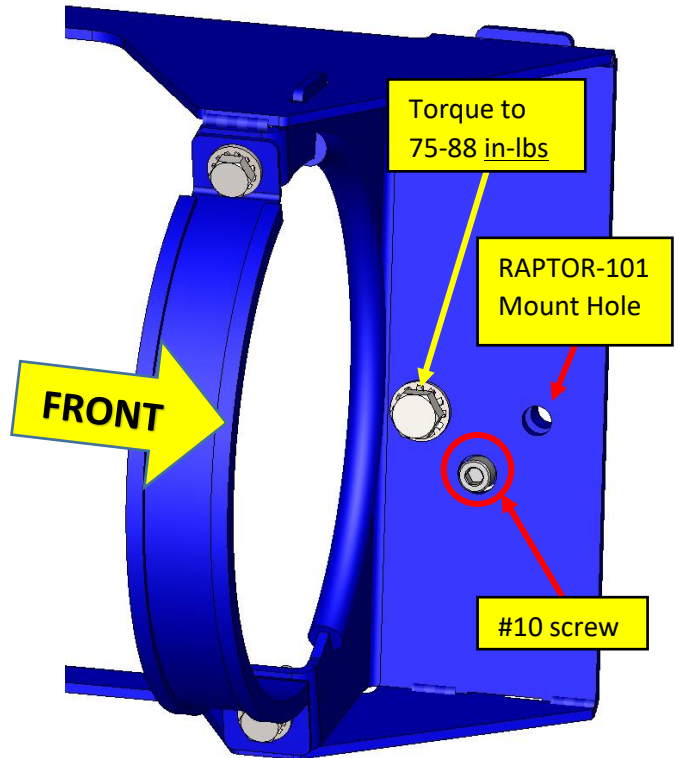

Figure 16 - RAPTOR-201 Hardware Location (right side)
10.3.2. Install hardware (1) #3, #7, & #11 into left hole on right side of RAPTOR-201. Ensure right hole is lined up and tighten firmly, as shown in Figure 16 below.
10.3.3. Verify RAPTOR-101 hole is lined up, then remove #10 screw as shown circled in Figure 16 above. If necessary, thread another bolt into RAPTOR-101 hole to ensure correct alignment.